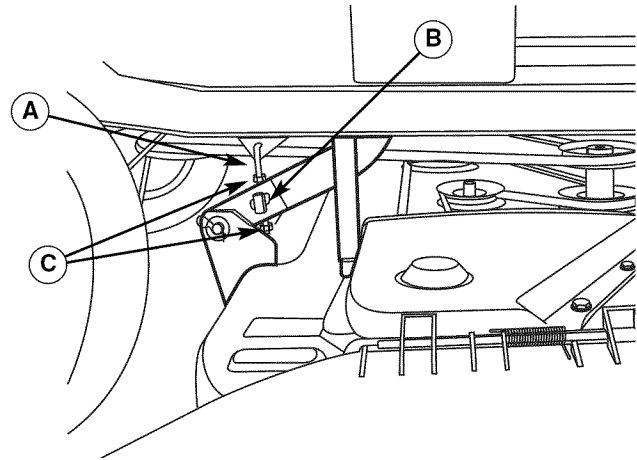

Figure 39. Side-to-Side Adjustment
6. Side-to-side leveling is accomplished using the threaded rods (A, Figure 39) and trunnion (B) on the right and left rear sides of the mower deck. Loosen the jam nuts (C) and adjust the nuts up or down to adjust the mower level. When complete, tighten the jam nuts against the trunnion to lock the adjustment in place.